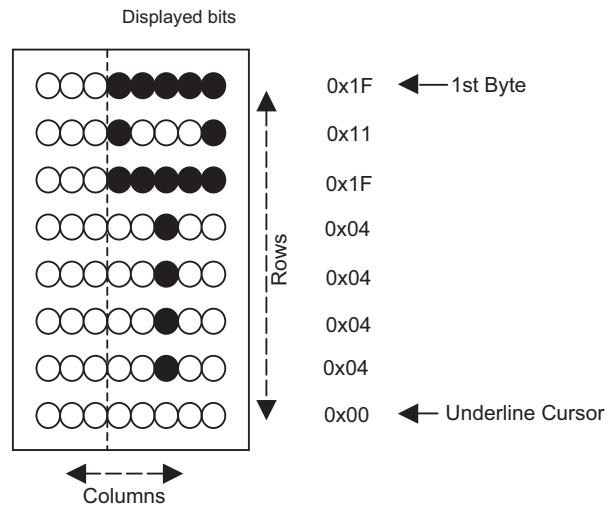

Figure 4. Construction Pattern for a Sample Character
2. The HD44780 controller's CGRAM can hold a maximum of 64 bytes, which limits the number of characters to 8. **Figure 4** displays a construction pattern for a sample character. The character is formed using 7 rows containing 5 pixels each. The bottom row represents the underline cursor.